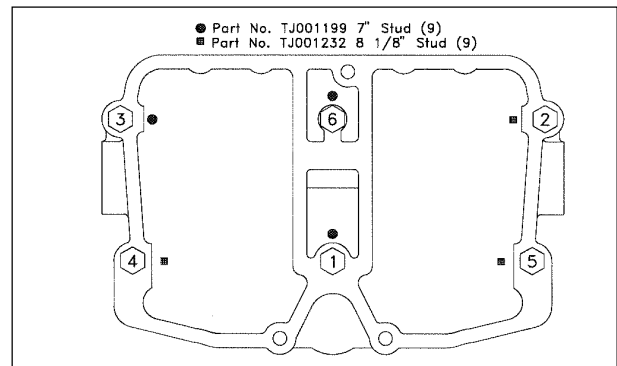

Figure 2-6
13. Remove three capscrews from each rocker housing in positions 1, 2, and 3 as indicated in Figure 2-6. **Do not remove all six of the capscrews at the same time, as this will permit the housing and gasket to move.**
15. Install studs supplied with kit in positions 1, 2 & 3 as indicated in Figure 2-6. Torque studs to 70 lbft (95 N\*m).
16. Remove capscrews from positions 4, 5 & 6 as indicated in Figure 2-6. Install new studs and torque to 70 lbft).